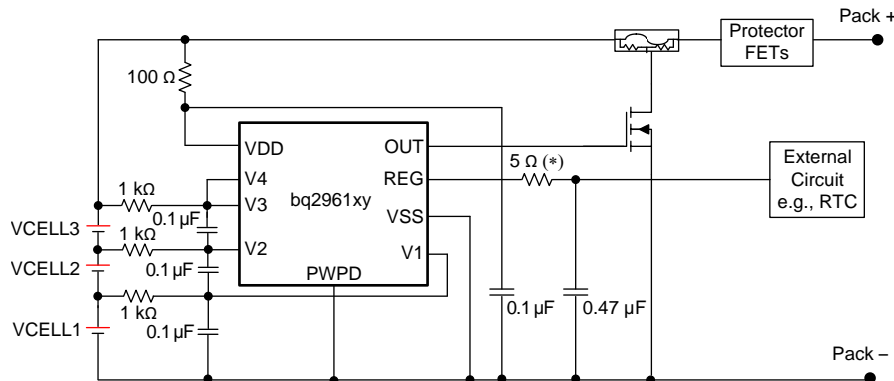
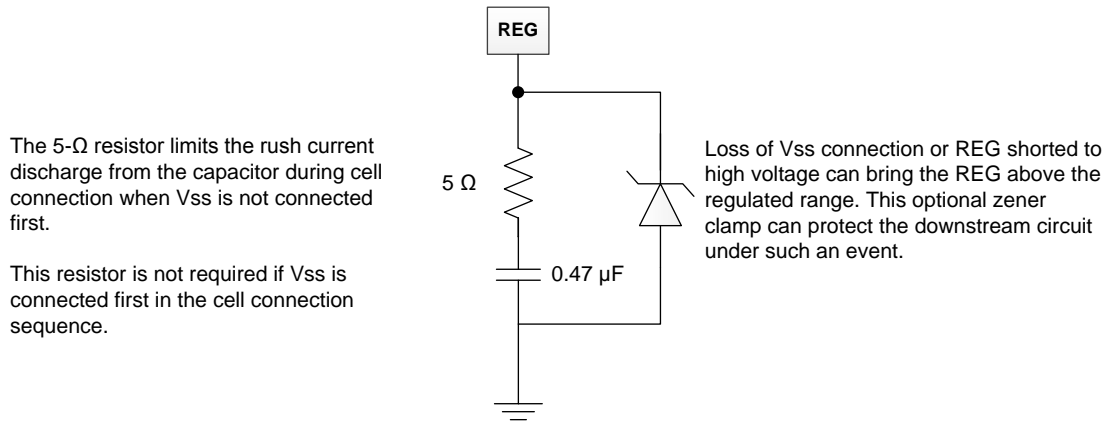

Figure 17. 3-Series bq2961xy Schematic
Figure 18. 5-V Zener Diode
1. If VSS pin cannot be connected first, it is required to add a resistor of a minimum of 5 ohms to a maximum of 10 ohms (a 5-ohm resistor is used in the reference schematic, Figure 17) in series with the REG capacitor. When VSS is floating, the REG capacitor always charges up to the VDD voltage. When VSS is finally connected, the REG capacitor will be discharged. Adding a small resistor in series reduces the current strength and avoids any potential damage to the REG pin. The 5-ohm resistor can be placed in series with the REG connect circuit (as shown in Figure 17) or in series of the REG capacitor (as shown in Figure 18). Placing the resistor in series with the REG circuit results in a small drop of VREG (for example: max loading of 1 mA with a 5-ohm resistor will drop 5 mV on VREG), but such a connection can protect against rush current discharge from both REG capacitor or external filter capacitor connected to the REG pin. Placing the resistor in series with the REG capacitor is an alternative to avoid additional drop in VREG if the filter capacitor used by the external circuit is much smaller than the REG capacitor.
3. Cell should be connected to the lower V_n pin; the unused V_n pin should be shorted to the (V_{n-1}) pin. See Figure 17 for details.
4. A zener diode can be added to the REG pin to VSS as shown in Figure 18. This is recommended to protect the circuit connected to the REG pin if floating VSS in the field is a risk concern. When VSS is floating (during cell connection when VSS is not connected first or in system fault with BAT– wire broken), the REG voltage always pulls up to VDD. In a 4-S configuration, the REG voltage can reach approximately 16 V with VSS floating. Adding a zener diode clamps the REG voltage to a safe level for the external circuits connected to the REG pin. Having the zener diode can also protect the external circuits if REG pin is shorted to OUT pin or any other high-voltage output terminal. If a zener diode is used, TI recommends putting the diode on the battery side with the bq296xxx device to allow protection on both the REG pin as well as the circuit connected to REG under floating VSS condition. The resistor in series with the REG pin is not required in this case.